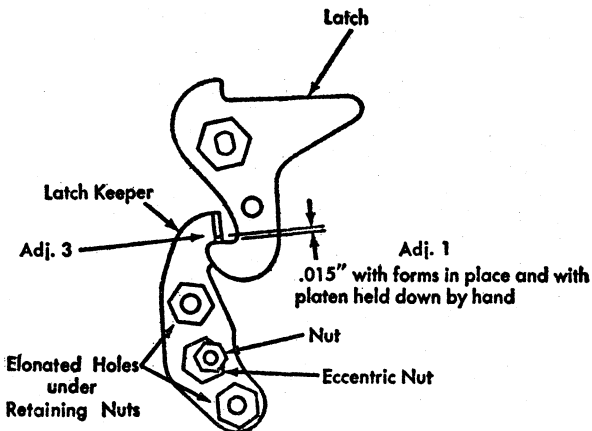

Figure 7. Latch Keepers Adjustment
1. **THE LATCH KEEPERS** should be adjusted to the thickness of the forms being used. With the forms in the machine, the platen should latch with .015" clearance between the latches and the lower edges of the latch keepers. This clearance is observed with the platen pressed down by hand on first one side and then the other (Figure 7). The keepers are adjusted by loosening the two locking nuts and the locking nut on the stud that holds the eccentric nut. Turn the eccentric nut until the keeper is positioned correctly.
3. **THE ECCENTRIC STUD** on the platen lift lever should be adjusted with the platen latched down, so the latches will rest half-way under the keepers (Figure 7).